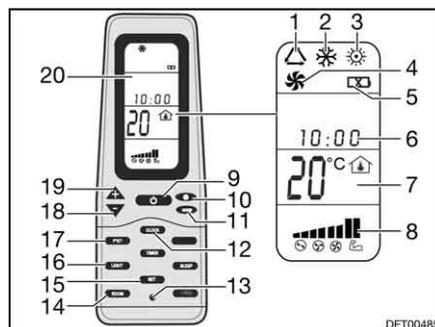

Fig. 214 Remote control
- Press the ON/OFF button (Fig. 214,9).
- Press the "Mode" button (Fig. 214,11) as often as required until the required mode (Fig. 214,1, 2, 3 or 4) is indicated on the display (Fig. 214,20).
- Use the "+" (Fig. 214,19) and "-" (Fig. 214,18) buttons to set the desired temperature.
- Use the fan speed button (Fig. 214,10) to select the desired fan level.